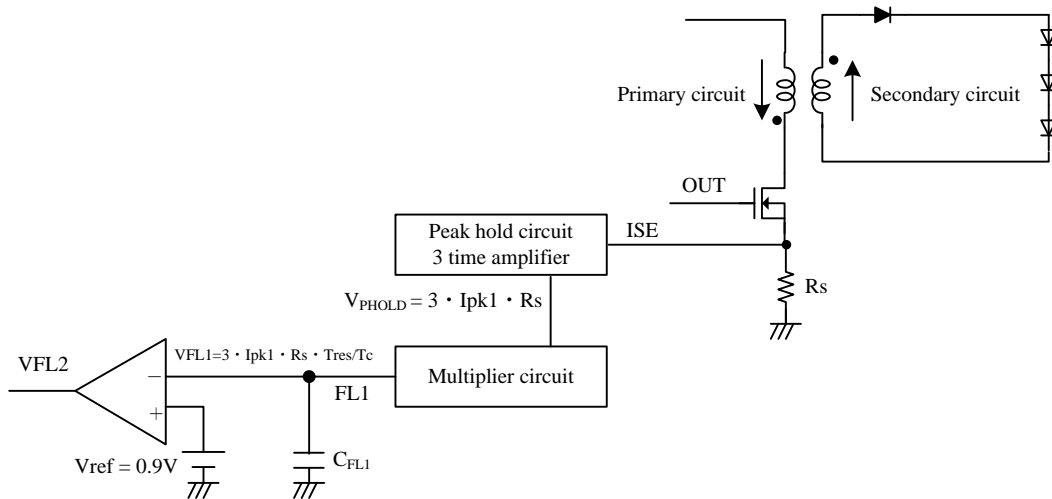

Figure 1.3 Block diagram relating constant current operation
IC operation, how to control LED current (output current) to be a constant value, is explained as below. Figure 1.3 shows block diagram relating constant current operation. As V_{ISE} is proportional to primary current and sensing resistance R_s , ISE terminal can monitor primary current. V_{PHOLD} is the output of peak hold circuit. It outputs the peak value of V_{ISE} every switching cycle, shown by equation (3).